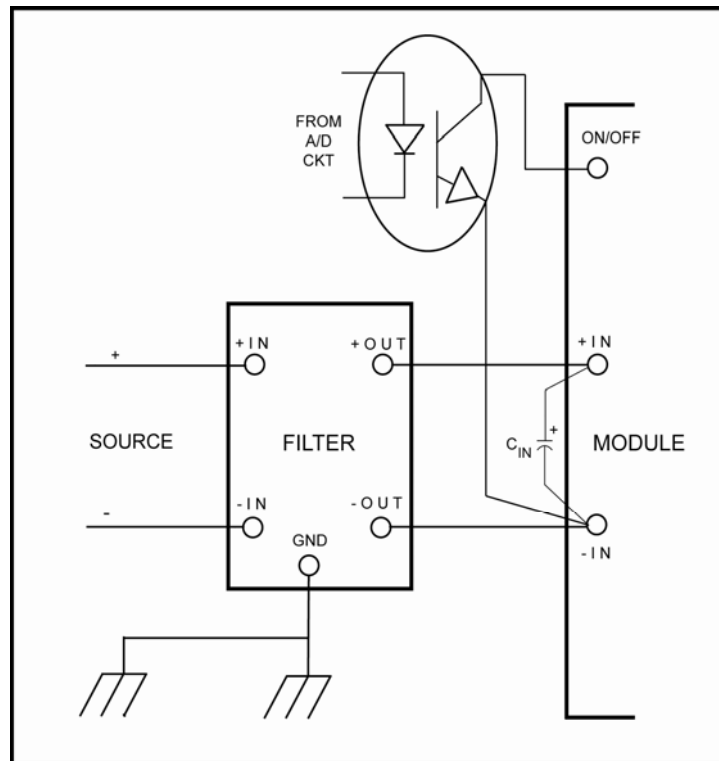

Figure 2. Use of the Shutdown Pin With Input Filters
Differential attenuation plots for the F4810 and F2410 filters in the extended frequency range of 20 kHz-100 MHz are shown in Fig. 2 and Fig. 3, respectively, and can be seen to be flat (around 55-60 dB) from 0.35 MHz to 40 MHz.
**Fig. 2: F4810 - Differential mode attenuation, 0.2-100 MHz. Source and load resistances are 50 Ω. Vertical scale: 10 dB/div, with zero level marked by arrow. No load, 25 °C.**